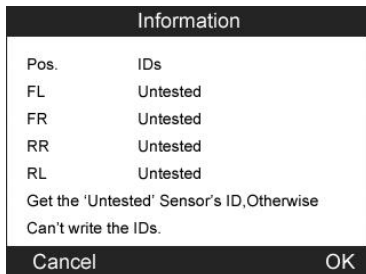

Figure 4.25
-  **NOTE:** If there are untested sensors in the vehicle, the writing ID process cannot proceed. The tool will display a warning message as below.(Figure 4.25) In this case, follow the sensor check procedure to activate all sensors in vehicle and register sensor IDs again.